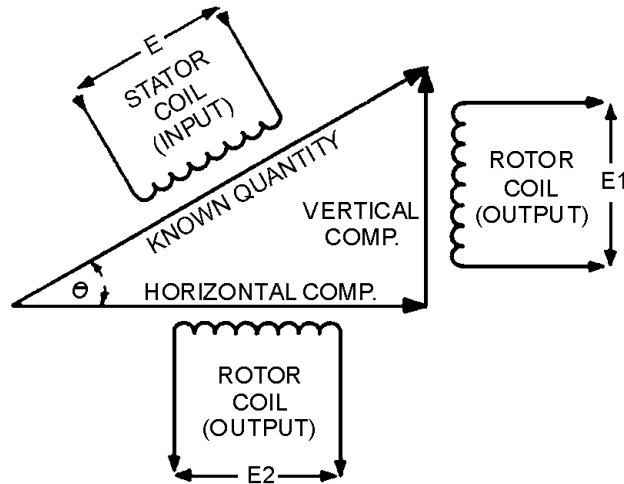

Figure 4-7.—One example of resolution.
Figure 4-7 illustrates the use of a resolver in solving a resolution problem. Assume that a voltage, E , and an angle, R , represent the magnitude and direction of a known quantity. To determine the two right-angle components of the quantity, feed the magnitude of the quantity to one stator coil and physically turn the rotor through angle R . The input voltage (E) induces voltage E_1 and E_2 in the two rotor coils. The values of these rotor voltages represent the vertical and horizontal components of the known quantity and depend on both the value of E and the angle (R) through which the rotor was turned.
In most cases, as in figures 4-7 and 4-8, only resolver coils actively used in solving a particular problem are shown in schematics.